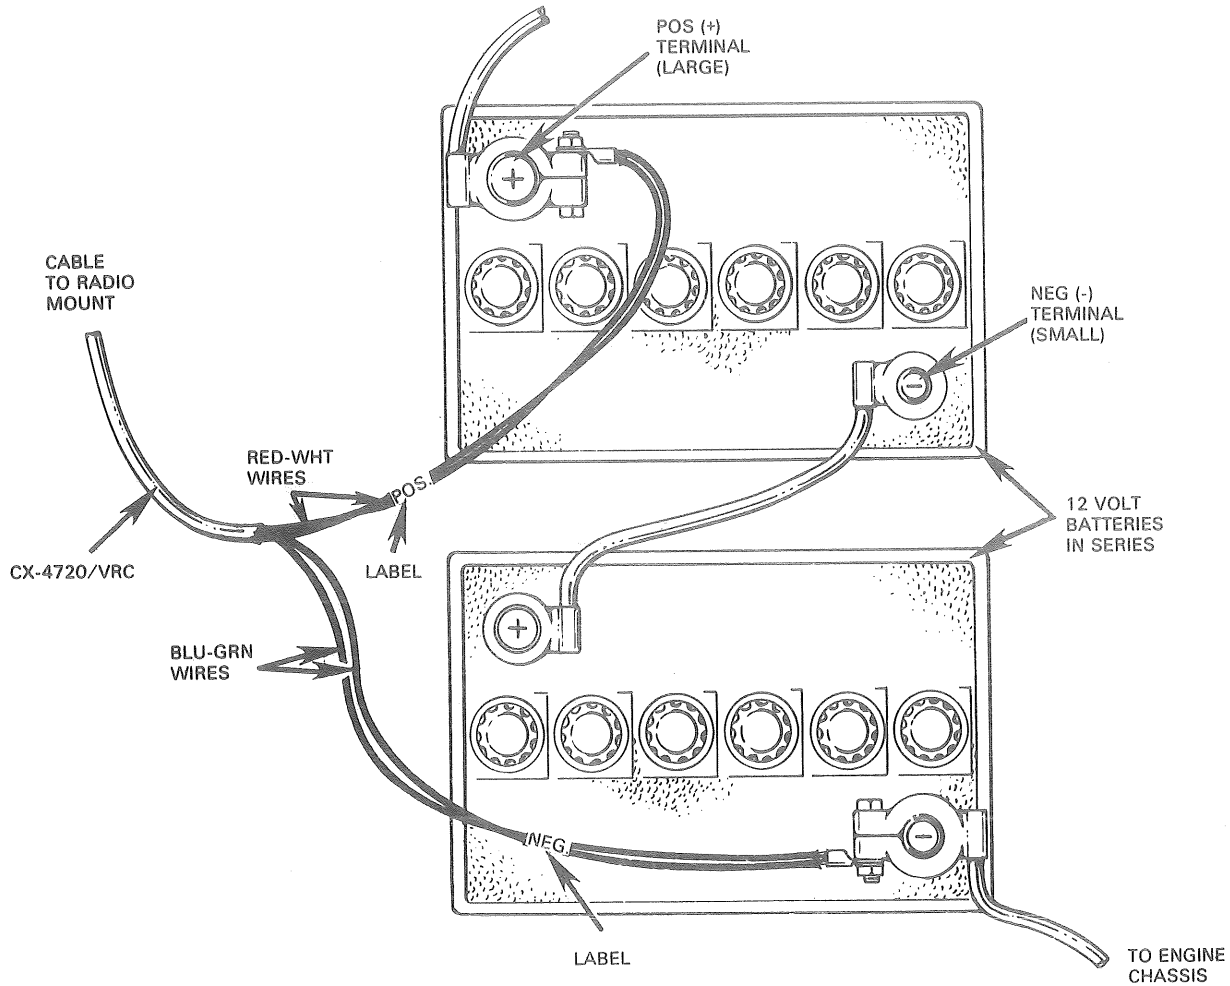

Figure 6. Connection of 28 V DC Power Cable.
6. Connect DC power cable from Generator Set 3 KW, 28 V DC to vehicle battery terminals. (Refer to fig 6.)